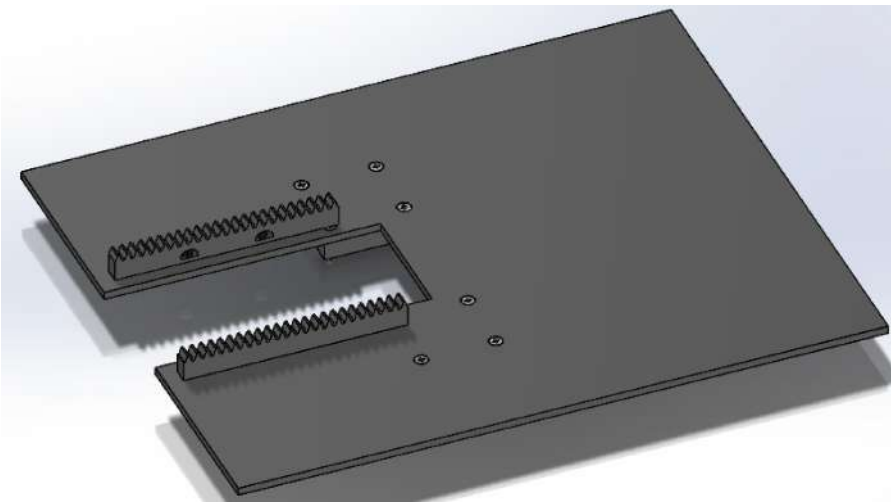

Figure 17: Adding rails to phantom bed
- Using four M4 screws and nuts (two per rail) attach rails to the phantom bed as illustrated in figure 17.